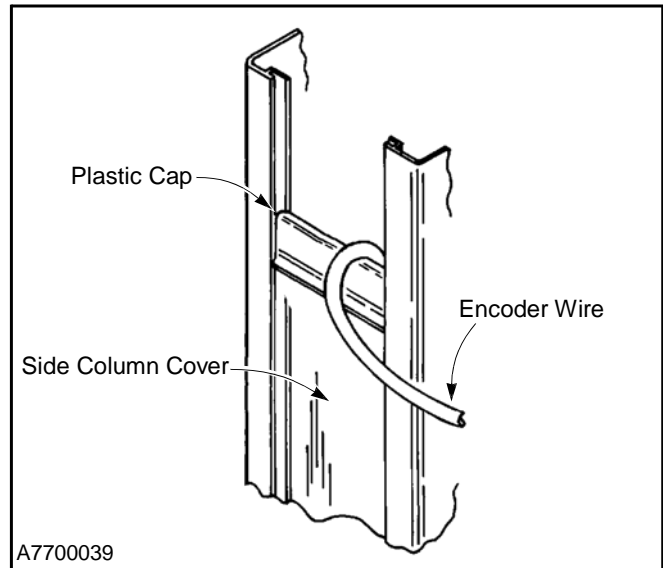

Figure 37
3. Run wires from the encoder and over the top of the motor mount side column cover. Run wires down to the access hole in the side column cover. (See Figure 37.)